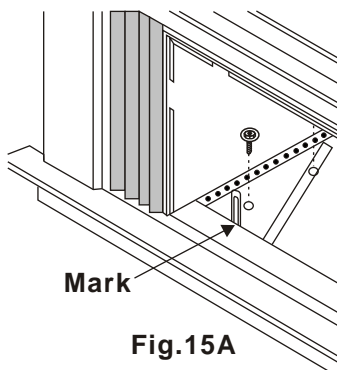

Fig. 15A
1. Hold each support bracket flush against outside of sill, and tight to bottom of cabinet as shown in Fig. 15A. Mark brackets at top level of sill, and remove.